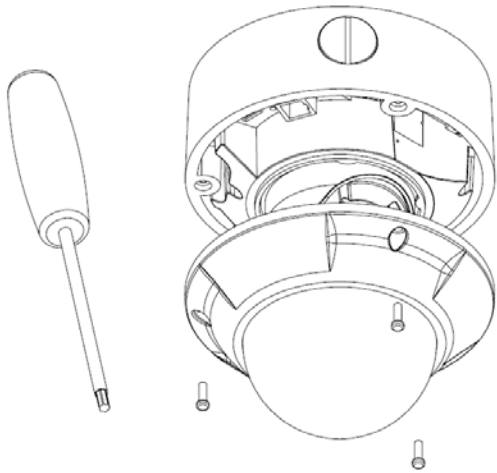

Figure 2.3.1 Unload the Cover
Step 1: First, loosen the screw with a hexagonal screw driver (attached with the camera), and take down the transparent cover shown as figure 2.3.1